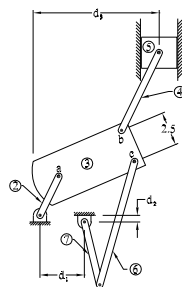

Figure 8.36:
7. Figure 8.36 shows a variable stroke internal combustion engine. Express equations that could be used to find the position of the piston (body 5) in terms of the angle of links 2 and 7.